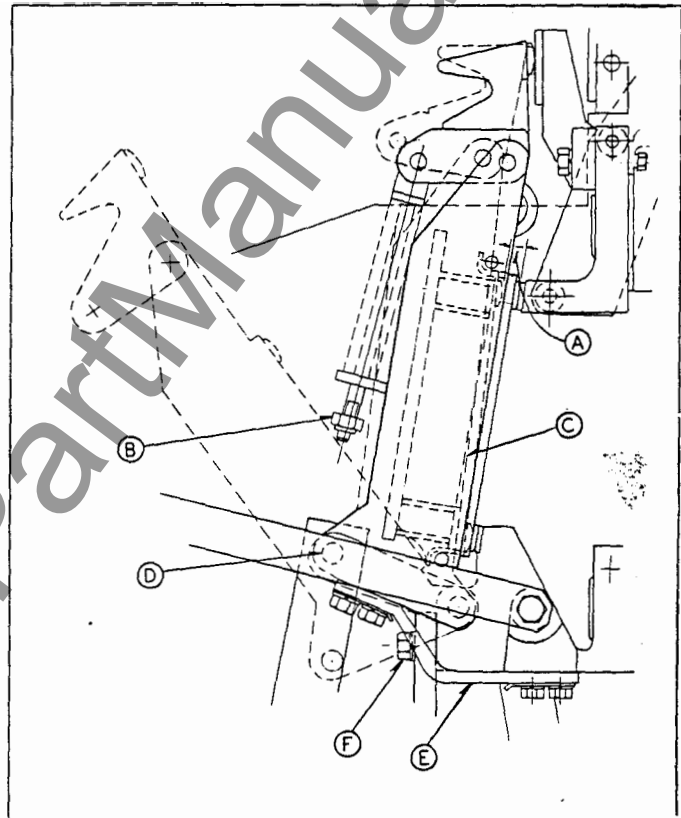
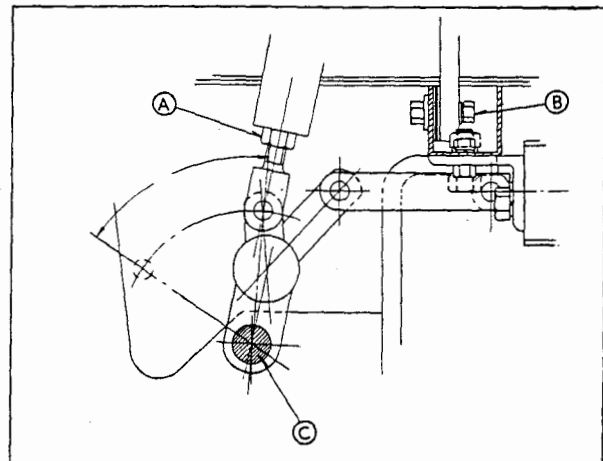

FIGURE 20
FIGURE 21
1. Main contacts should be open 3/8" when arcing contacts touch. Fig. 20-A.
2. Arcing contact adjusting nut. Fig. 20-B.
3. Main contact bridging member. Fig. 20-C.
4. Pull pin to adjust push-rod. Fig. 20-D.
5. Shunt carries full current only during a portion of the interrupting time. Fig. 20-E.
6. Periodically test tightness of bolts. Fig. 20-F; Fig. 21-B.
7. Adjust main contact deflection by rotating push-rod on threaded clevis, 1/2 turn 1/32" on main upper contact. Fig. 21-A.
8. Main pivot axis. Fig. 21-C.